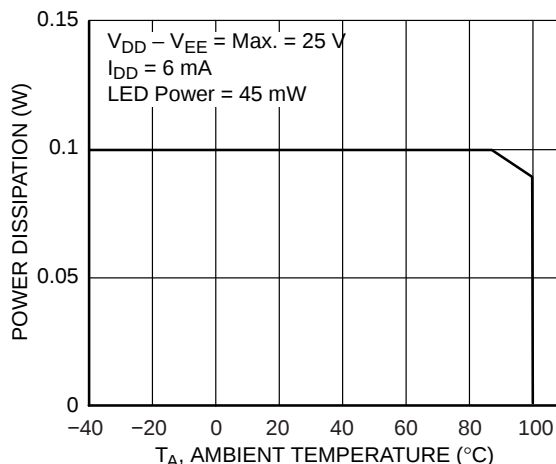

Figure 13. Absolute Maximum Power Dissipation vs. Ambient Temperature
3. Derate linearly above $+87^\circ\text{C}$, free air temperature at the rate of $0.77\text{ mW}/^\circ\text{C}$. Refer to Figure 13.
The absolute maximum output power dissipation versus ambient temperature is shown in Figure 13. The output driver is capable of supplying 100 mW of output power over the temperature range from -40°C to 87°C. The output derates to 90 mW at the absolute maximum operating temperature of 100°C.